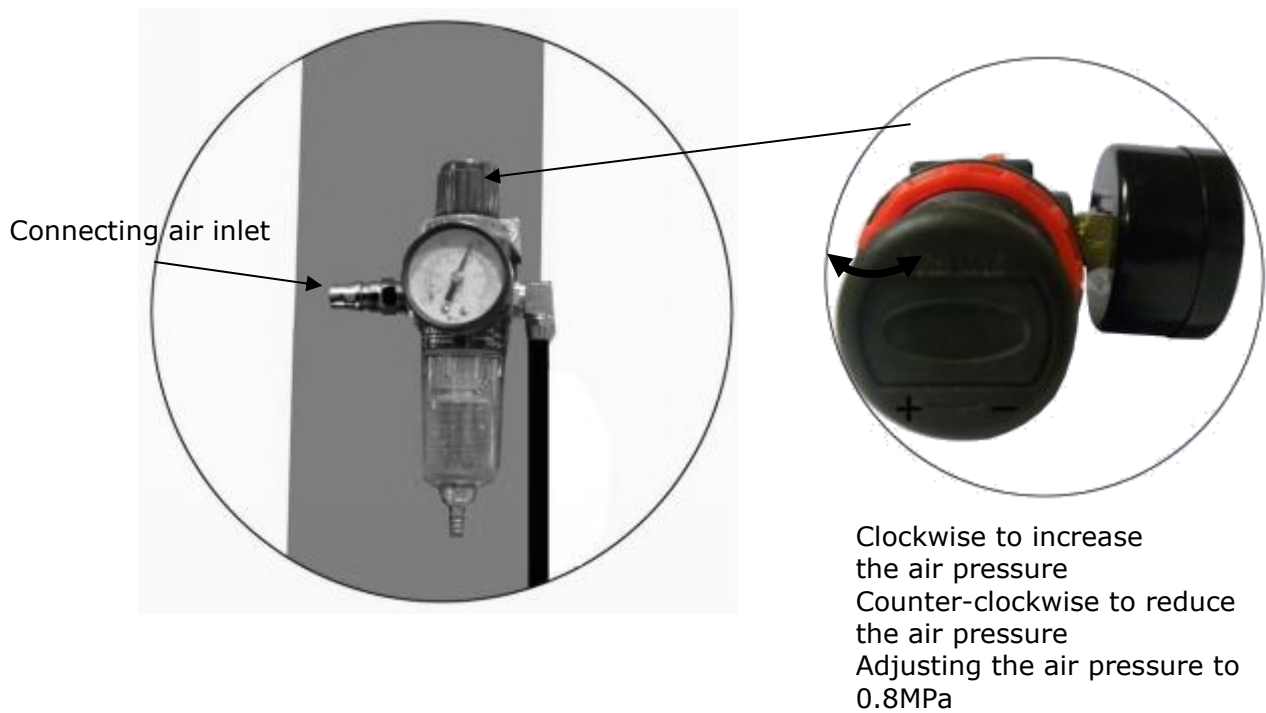

Fig. 32
6. Connecting air inlet (Air supply pressure $5\text{kg}/\text{cm}^2 - 8\text{kg}/\text{cm}^2$), adjusting the air pressure of Oil-water separator to 0.8MPa (See **Fig. 32**).